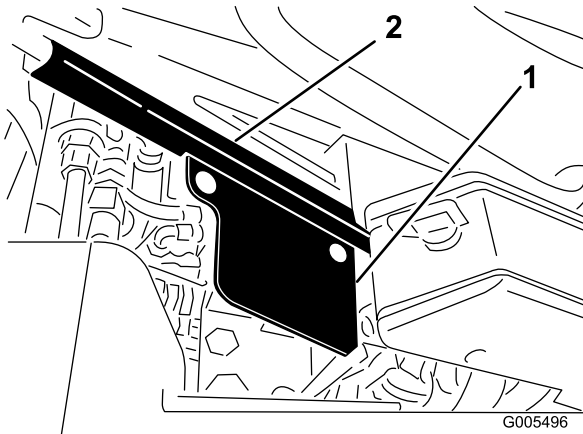

Figure 8
7. Mount valve shield to the right side of the seat base with 2 carriage bolts (5/16 x 5/8 in.) and nuts. Position the shield as shown in Figure 8.